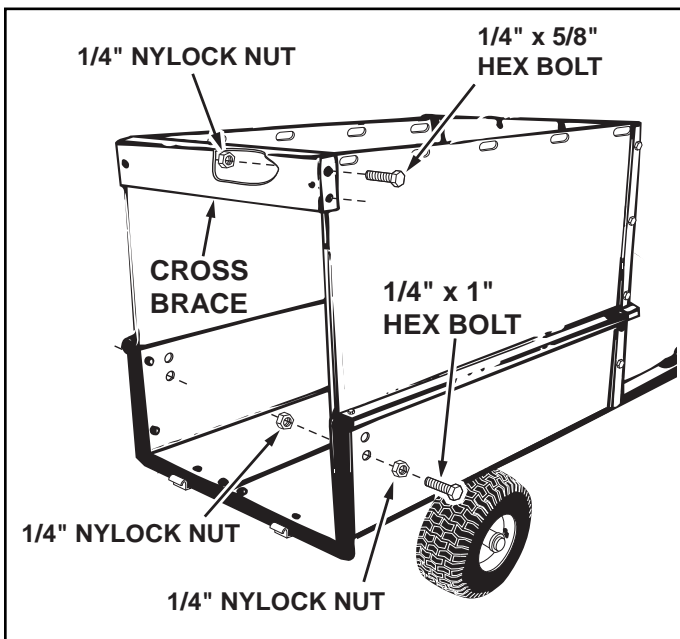

FIGURE 12
21. Screw a 1/4" nylock nut onto a 1/4" x 1" hex bolt until it is about 1/4" from the bolt head. Insert the bolt into the hole shown in the side of the cart in figure 12. Fasten the bolt to the cart using a 1/4" nylock nut. **Tighten** so that the nut is one or two threads past the end of the bolt. Repeat on the other side.
22. Assemble the cross brace to the top rear holes in the side panels using four 1/4" x 5/8" hex bolts and 1/4" nylock nuts. See figure 12.